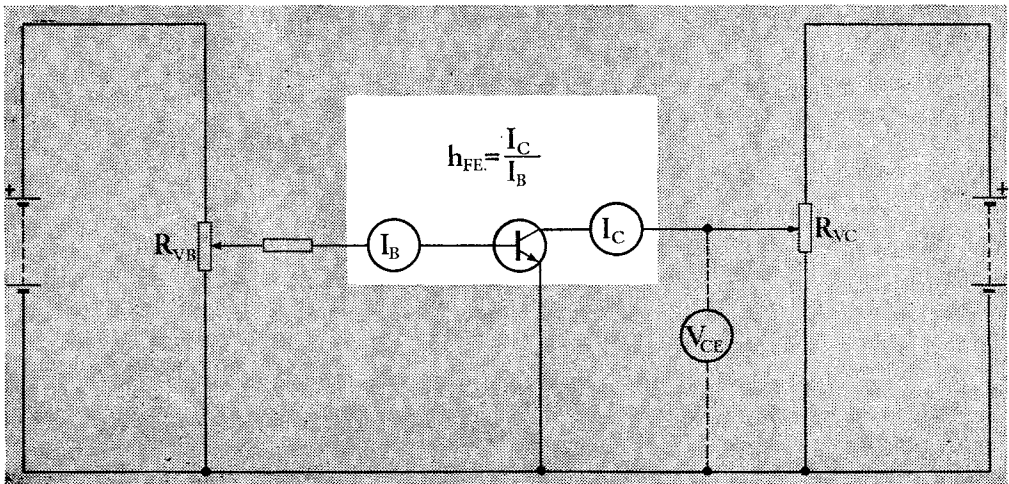

Fig. 10 Testing current gain h_{FE}
26. **Gain h_{FE} .** The gain usually quoted in manufacturer's specification is h_{FE} , which is the static value of the short circuit current transfer ratio in the common emitter configuration (i.e. I_C/I_B). It was formerly given the symbol β and is still occasionally called beta. It is usually quoted for a specified collector current I_C and collector-emitter voltage V_{CE} . Under these conditions a base current I_B is needed to allow the collector current to flow. These currents can be measured using the basic test circuit shown in figure 10, and h_{FE} can then be calculated ($h_{FE} = I_C/I_B$), and compared with the specified minimum value for the transistor being tested. Figure 10 shows the test circuit for an n-p-n transistor; for testing p-n-p types the polarity of both batteries must be reversed.